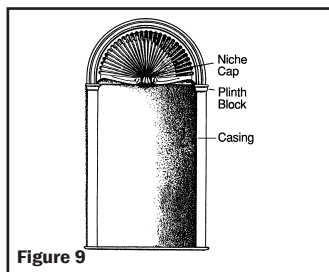

Figure 9
- Plumb/level casing, screw or nail into place. (*figure 9*)